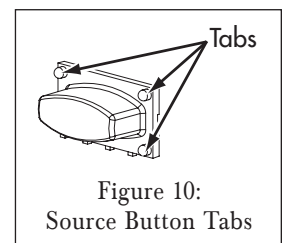

Figure 10:
6. Place all four of the desired Source buttons into the keypad bezel. The tabs on the buttons will fit into the depressions adjacent to the openings on the back of the bezel (see Figure 10).